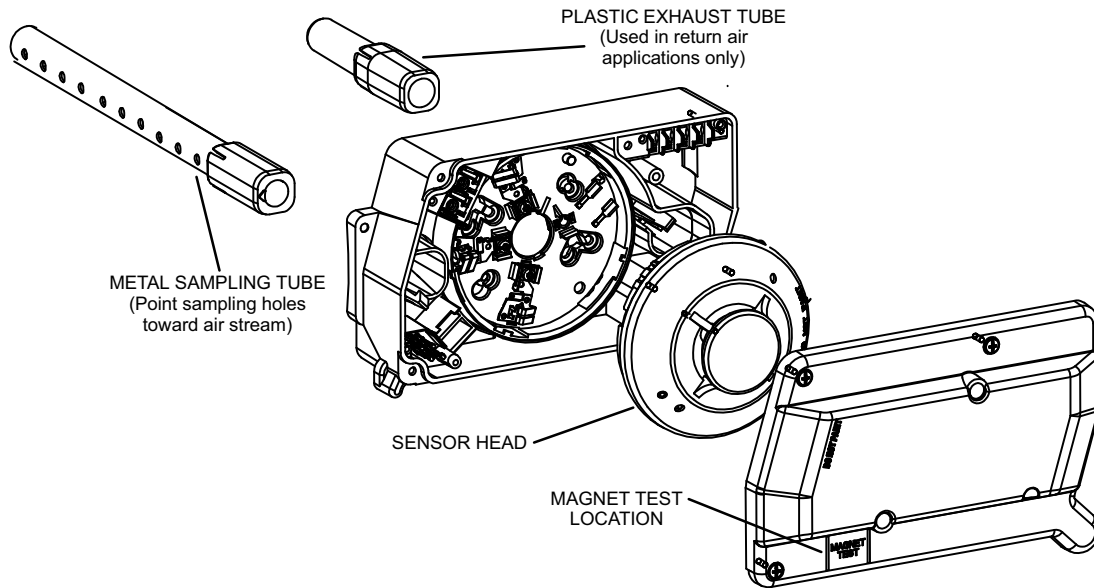

FIGURE 6
- 1 - Slide metal sampling tube onto the back side of the sensor as shown in figure 6. When sensor is installed in return air applications, slide plastic exhaust tube onto back side of the sensor as shown in figure 6.